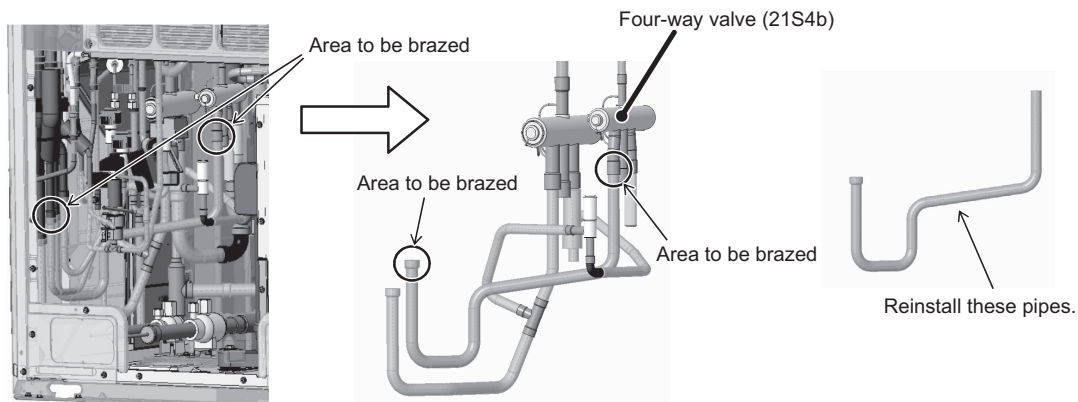

Figure 20
- (20B) Install the pipe below four-way valve (21S4b) and on the front by brazing at the two areas shown in Figure 20.